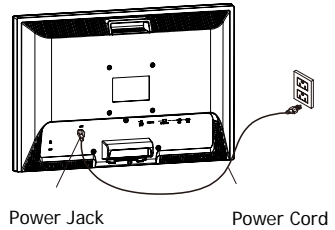

Figure1-6
5. Connect the power cord to the LCD Monitor. (See Fig. 1-6)